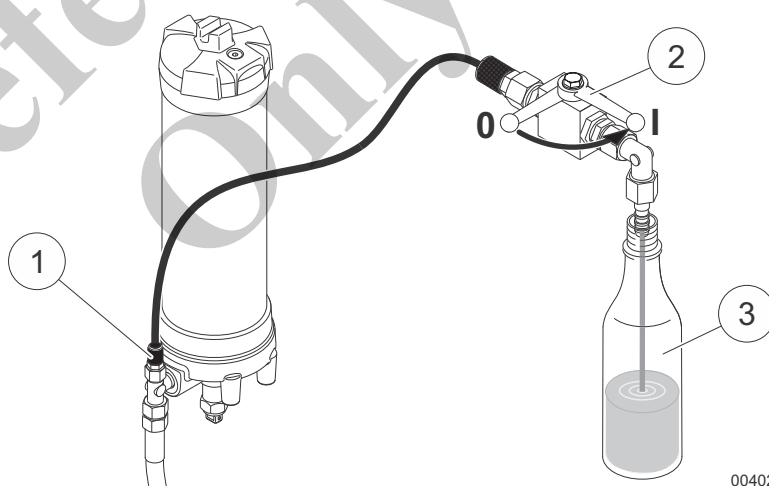

Fig. 4 Draining flushing oil
| 4 | Remove the protective cap from the measurement connection (1) in Fig. 4. |
| 5 | Connect the device for removing hydraulic oil samples (2) in Fig. 4 to the measurement connection (1) in Fig. 4 and drain around 0.25 l hydraulic oil into an empty container (3) in Fig. 4. |